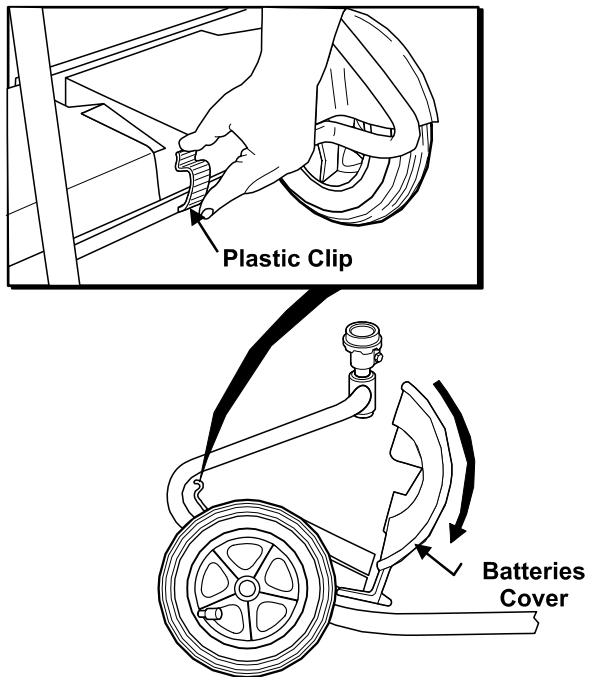

Figure 16.
- b. Open **Batteries Cover** - (See Fig. 16).